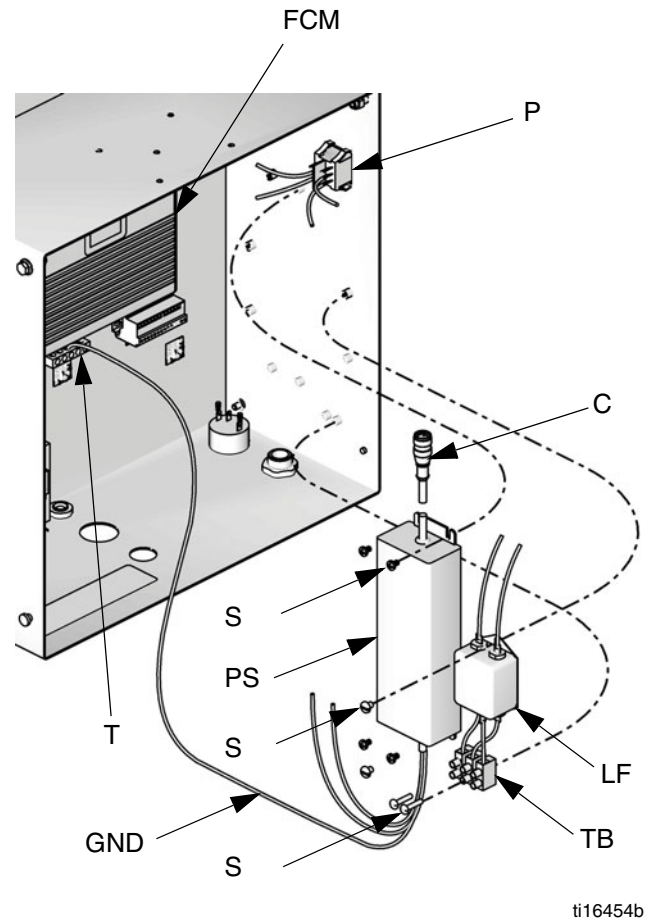

FIG. 2. Remove Power Supply Components
3. See FIG. 2. Disconnect the power supply CAN cable (C) from the fluid control module (FCM).
4. Disconnect all wires from the power switch (P). Leave the switch in place to fill the knockout in the side of the control box.
5. Disconnect the power supply ground wire (GND) from the control box ground terminal (T).
6. Remove the screws (S) holding the power supply (PS), line filter (LF), and terminal block (TB) to the control box. Remove these parts.